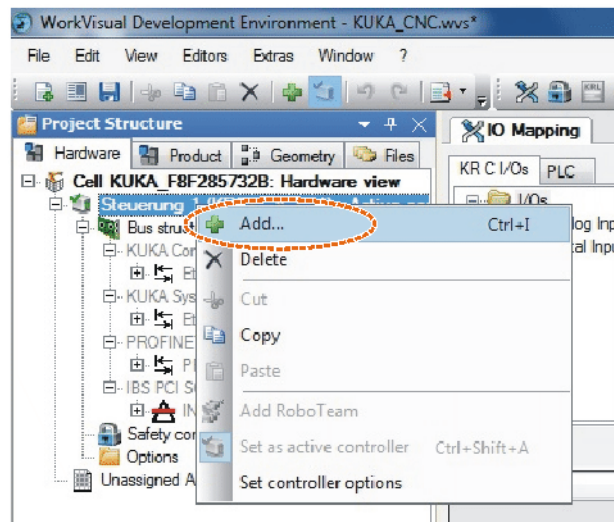

Fig. 6-8: Adding catalog element to controller
8. Add element to the controller via the context menu (>>> Fig. 6-8).